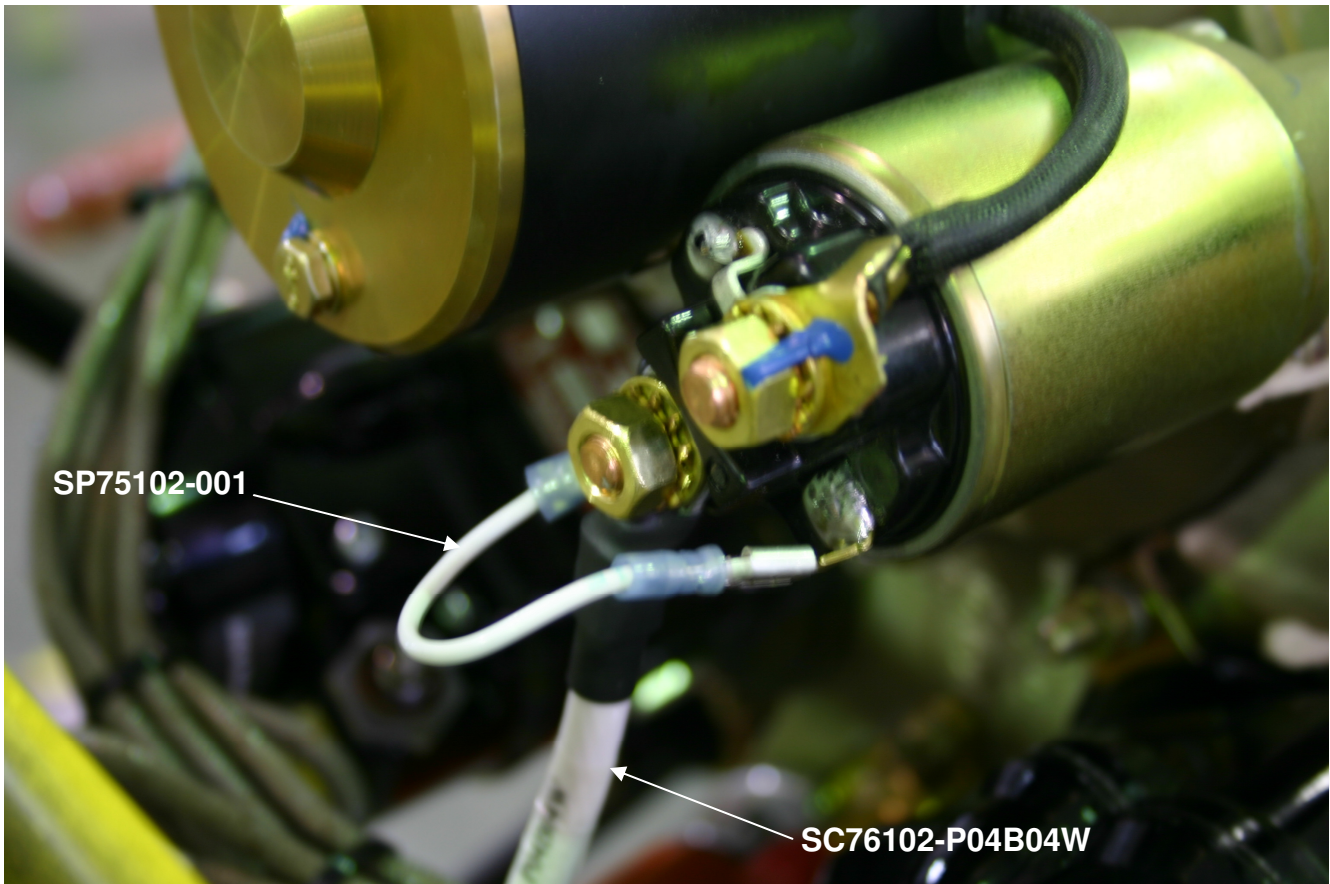

FIGURE 3 – JUMPER WIRE CONNECTION
19. Install and secure JUMPER (P/N SP75102-001) and WIRE ASSEMBLY (P/N P04B04W) to starter solenoid post with original hardware (REF FIGURE 3).
20. Secure opposite end of JUMPER (P/N SP75102-001) to starter solenoid terminal (REF FIGURE 3).